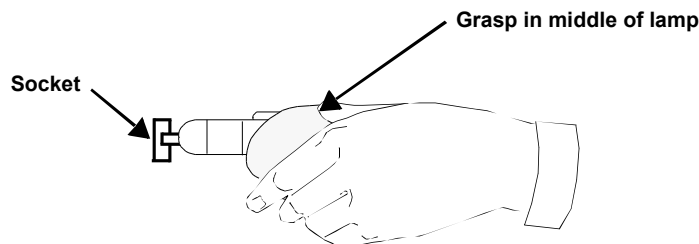

Figure 15. Tungsten-Halogen Lamp Replacement
7. Using a piece of lens paper (or equivalent) placed between your thumb and forefinger; insert the replacement lamp into the sockets. Refer to Figure 15.